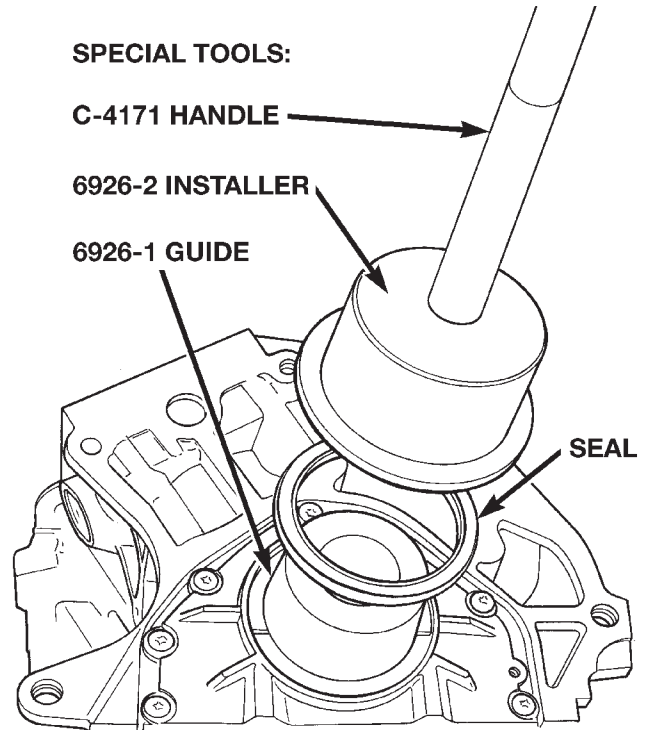

Fig. 84 Crankshaft Rear Seal—Installation
(1) Place Special Tool 6926-1 Guide on crankshaft (Fig. 84). This is a pilot tool with a magnetic base.
(2) Position seal over pilot tool. Assure that lip of seal is facing towards the crankshaft during installation. The pilot tool remains on crankshaft during seal installation.
(3) Using Special Tool 6926-2 Installer, and C-4171 Handle (Fig. 84), drive seal into the retainer housing until seal is flush with housing surface.
(4) Install drive plate and transaxle.